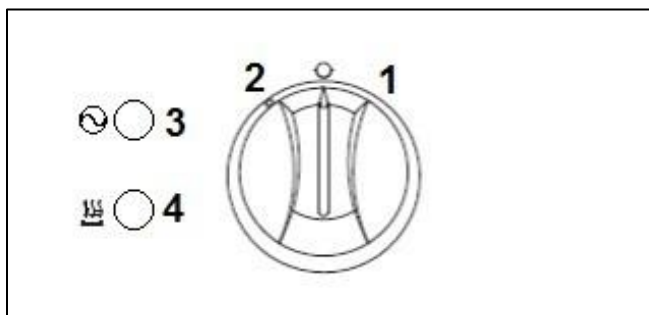

Figure 2 – E401/E401F Control Panel
2.3.1 E401/E401F Fryer Control Panel (See Figure2)